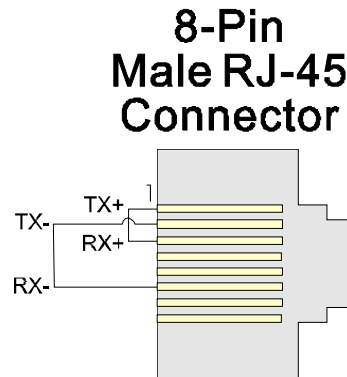

Figure 5-25. RJ-45 Ethernet Loop-back Plug
This test configures the Ethernet port's ability to transmit and receive via the twisted pair. The test transmits frames and compares them against received frames. You need a special loop-back plug (shown in *Figure 5-25*) to perform the Ethernet loop-back test:
1. Connect an external Ethernet loop-back plug (see *Figure 5-25*) to the Ethernet port on the CPU module to be tested.